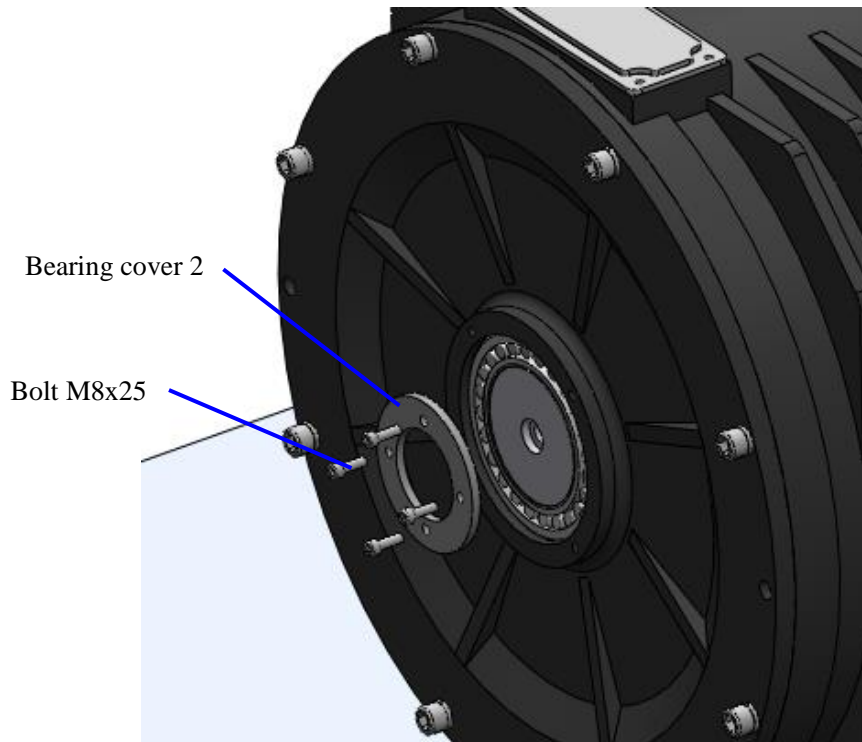

Figure 121: Install Bearing cover 2
4. Install Bearing cover 2 on the main shaft, and then tighten the bolt M8x25 (4 pieces) with hex wrench (6mm). See Figure 121.